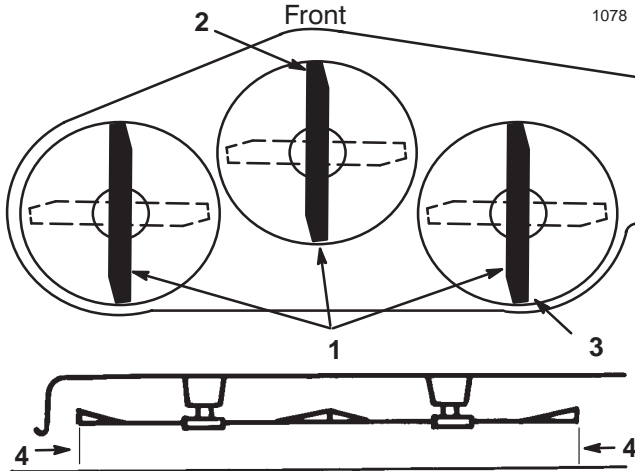

Figure 52
- Check the front-to-rear slope by measuring between the bottom of the mower (front center and rear center) and the flat surface (Fig. 52).